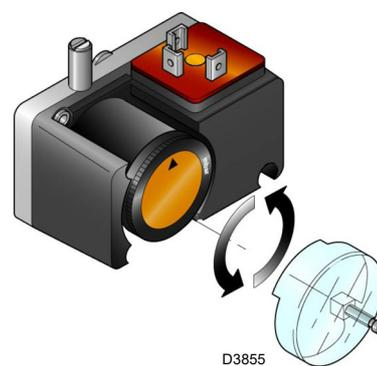

Fig. 34
- Adjust the minimum gas pressure switch (Fig. 34 at page 33) to the start of the scale.
Adjust the minimum gas pressure switch (Fig. 34) after having adjusted the burner, the gas valves and the gas train stabiliser.